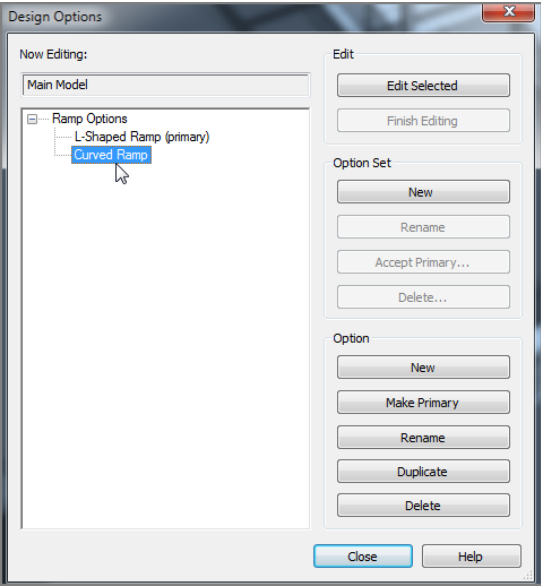

FIGURE 21.10: Adding options
10. Rename the new option **Curved Ramp** (see Figure 21.10).